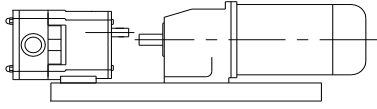
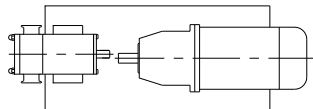
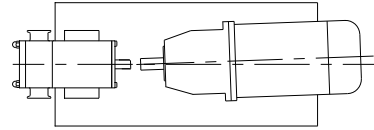

Figure 2.2.2
Figure 2.2.3
Figure 2.2.4
- ⚠ Always make sure the alignment with the drive unit is within proper tolerances. Misalignment between the pump, drive and coupling will result in premature wear, increased operating temperature and noisier environment. See figure 2.2.2 for vertical misalignment: Place shims under pump or drive; 0.25mm (0.01inch) max deviation. See figure 2.2.3 for horizontal misalignment: Move pump or drive horizontally; 0.25mm (0.01inch) max deviation. See figure 2.2.4 for angular misalignment: Rotate pump or drive; 1° max deviation